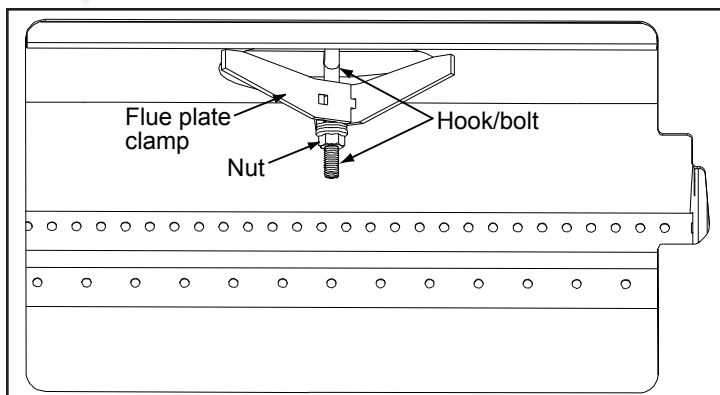

Figure 37: Attaching removable flue.
- a) Remove the first two (2) front secondary air tube and ceramic baffles, if installed (see CERAMIC BAFFLE INSTALLATION).
- b) Unscrew the nut on top of the inside of the firebox, using a $\frac{9}{16}$ " wrench or socket (see Figure 37). The flue plate clamp will slide off the hook/clamp.